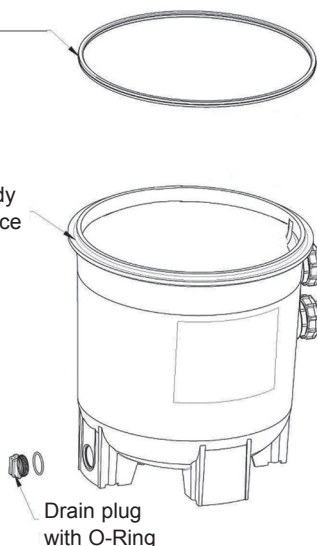
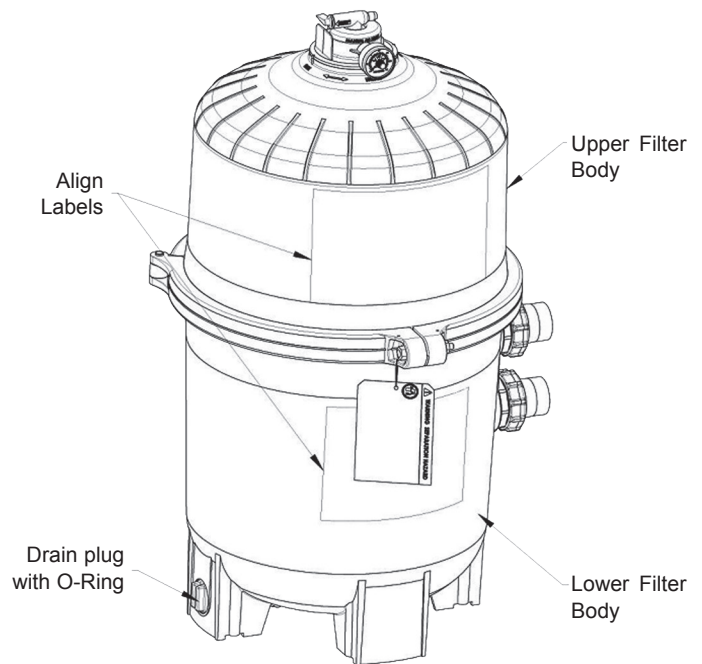

Figure 4
Figure 5
2. Close filter drain. Note: Filter plug requires an o-ring seal. (See Fig 4)
4. Remove filter drain plug (FIG 4) and drain water from filter.
2. With a clean cloth wipe the lower filter body seal surface. (Fig 4) Do not use a solvent.
1. Place the metal reinforced seal on the lower filter body (Fig 4). Place the upper filter body on the Hayward DEX2422Z2 metal reinforced seal and lower filter body in a position which allows all operation and safety labels to be clearly visible and the upper body to be centered on the lower filter body. Press down firmly and evenly to set the upper filter body. (Fig 5)
2. Replace the filter clamp around the upper and lower filter bodies. Hold the clamp ends to position the clamp on the filter bodies with the clamp ends adjacent to the safety and operation labels on the filter bodies. (Fig 5)